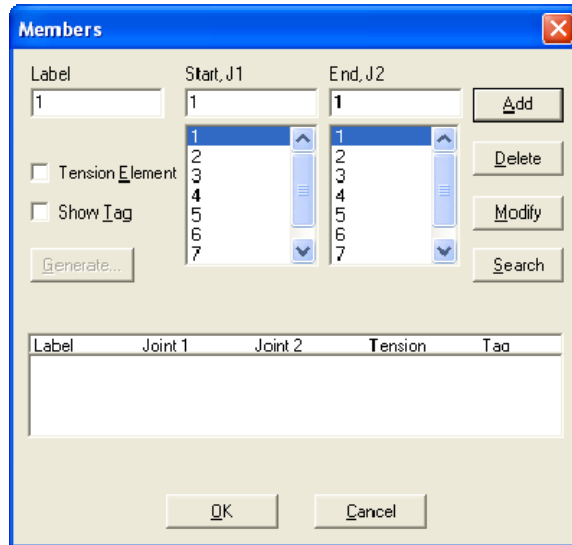

Figure 3-23 Members dialog box
- From the Process menu, select Members. The dialog box of Figure 3-23 appears.